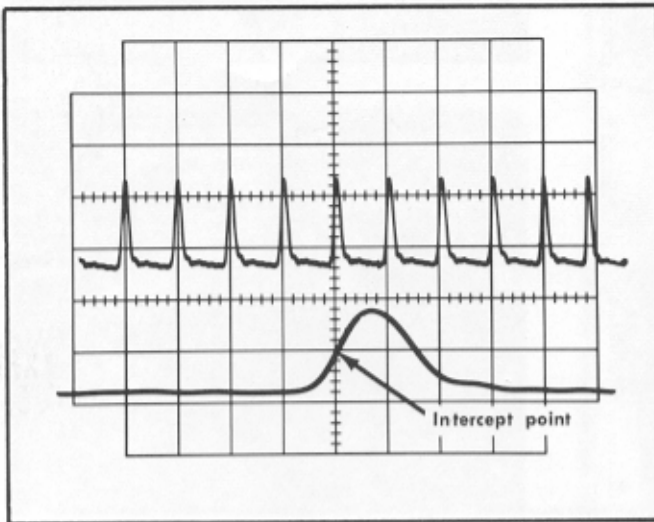

Fig. 6-46. Typical display obtained to illustrate intercept point with dial at 1.00.
y. Set the Lower Beam DISPLAY MAG switch to $\times 10$ and use the Lower Beam POSITION control to position the 50% level on the rising portion of the marker pulse to an intercept point. For example, at the point where 5th cm vertical graticule line and 2nd cm horizontal line from bottom of graticule meet as shown in Fig. 6-46.